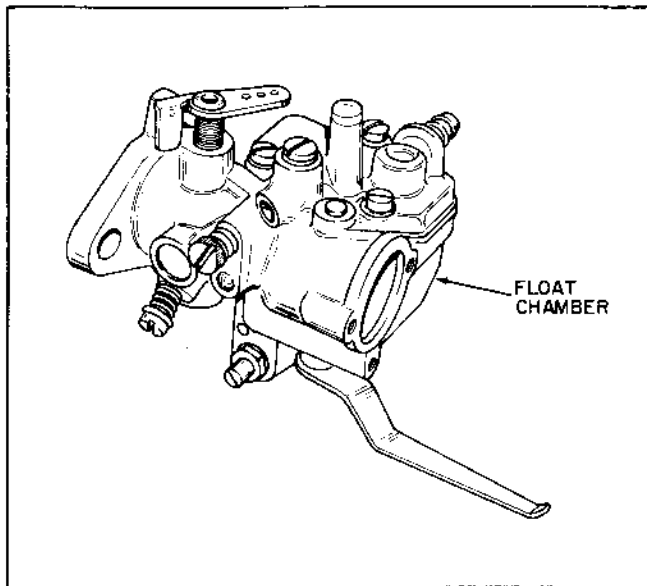

Figure 2-1
- (1) The fuel system of Lauson and Power Products engines consists of a carburetor, air cleaner, fuel tank, and fuel lines. The function of the fuel system is to mix fuel and air in the proper proportion so that the mixture will burn efficiently in the engine at any rate of speed.
- (2) Though a number of different models of carburetors are used on Lauson and Power Products engines, basically they operate in one of two ways. The one type uses a float feed system while the other uses a pressure differential system. All models of the float feed system operate in the same general manner and all models of the pressure differential system operate in the same general manner.
B. FLOAT FEED CARBURETORS. Float feed carburetors (Fig. 2-1) use a hollow metal float to maintain the operating level of fuel in the carburetor. As the fuel is used, the fuel level in the carburetor bowl drops and the float moves downward. This actuates the inlet needle valve to allow fuel to flow by gravity into the fuel bowl. As the fuel level in the bowl again raises, it raises the float. This float motion closes the needle valve to stop the fuel flow at the proper level.